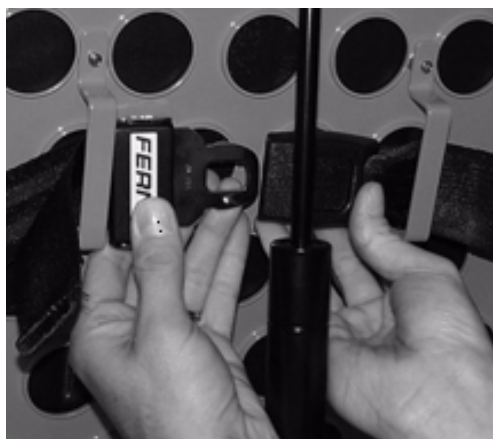

Figure 32.2: Fastening the Pedi-Mate® Buckle
4. Wrap the straps around the backrest and insert the ends of the straps through the brackets. Securely fasten the buckle as shown in Figure 32.2.